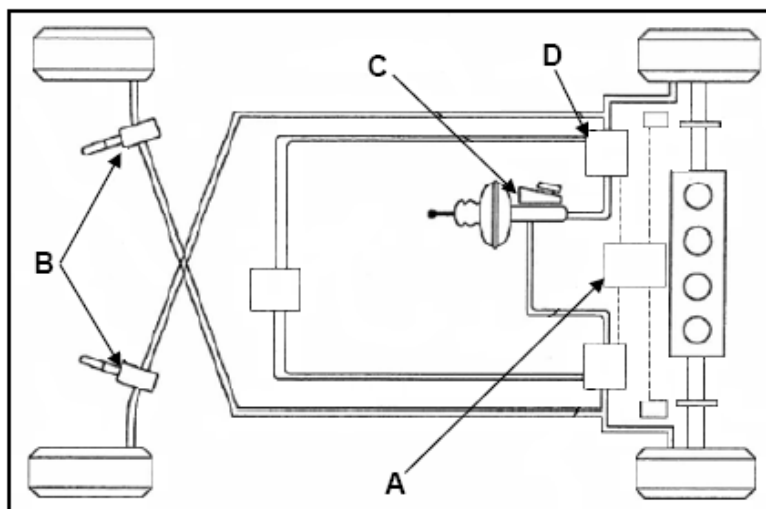

FIGURE 11.5
- 11.5 FIGURE 11.5 below shows an ABS system in a motor vehicle. Label A–D.